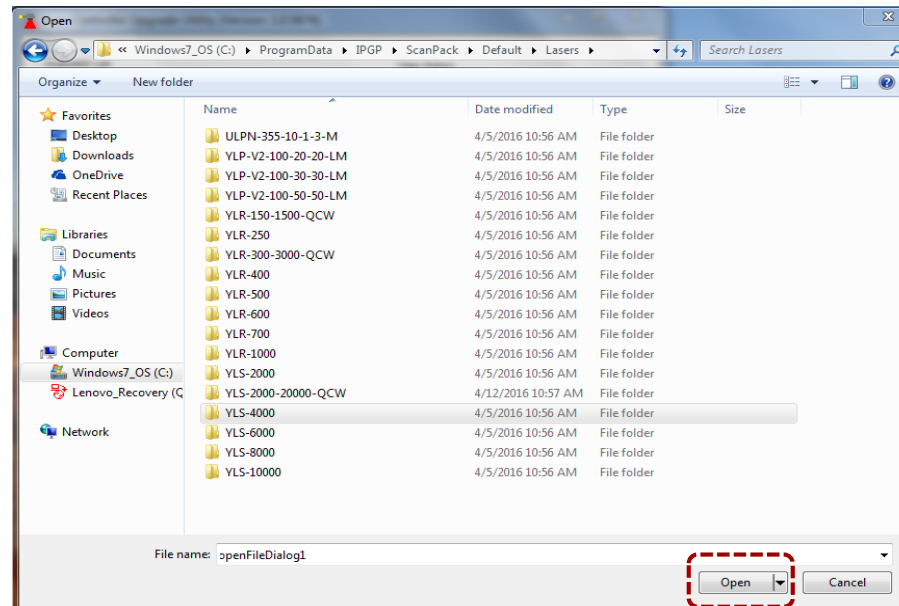

Figure 2
- Select the folder for your laser from the list and click **Open** (Figure 2).